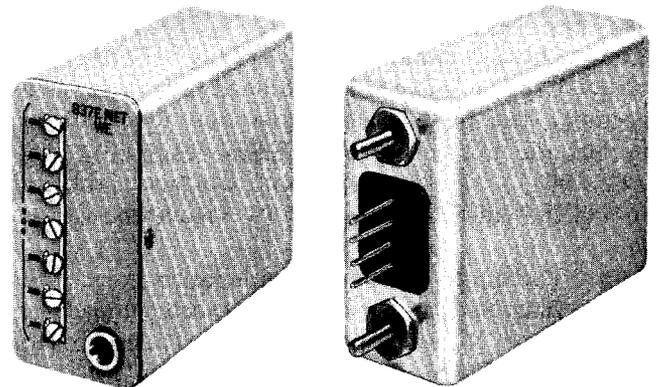

Fig. 1—837E Network
2.03 The front of the network (Fig. 1) contains seven screw type switches for adjusting the build-out capacitance (BOC) and a 239C jack for test purposes.